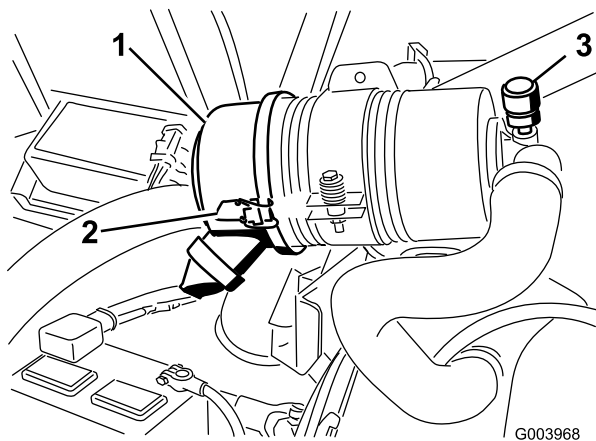

Figure 59
Service the air cleaner filter only when the service indicator (Figure 59) requires it. Changing the air filter before it is necessary only increases the chance of dirt entering the engine when the filter is removed.
1. Release the latches securing the air cleaner cover to the air cleaner body (Figure 59).